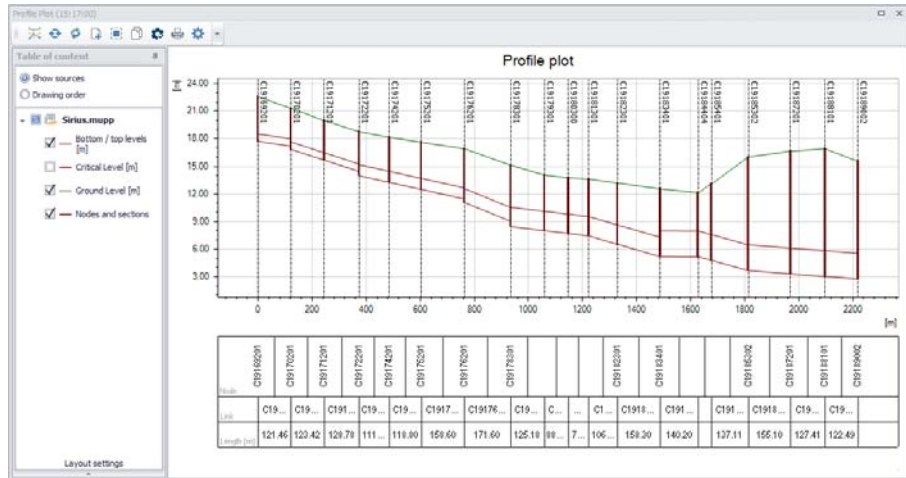

Figure 20.33 The Profile Plot form window showing an example longitudinal profile plot without simulation results
- Finally, click on ‘Draw profile’ on the Profile and Tracing toolbox. This will create a new profile plot (Figure 20.33).